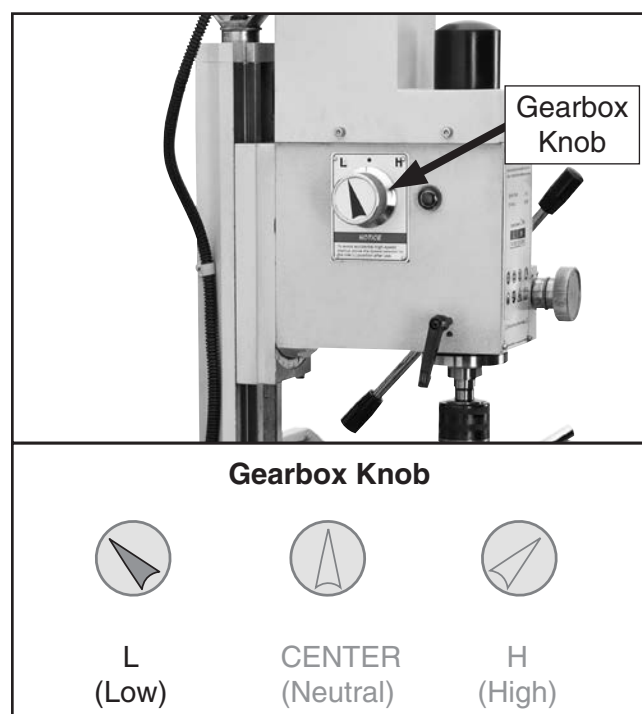

Figure 114. High/low gearbox knob set to low "L".
2. Rotate high/low gearbox knob (see **Figure 114**) to either "L" (spindle speeds 50–100 RPM) or "H" (spindle speeds 100–2000 RPM).